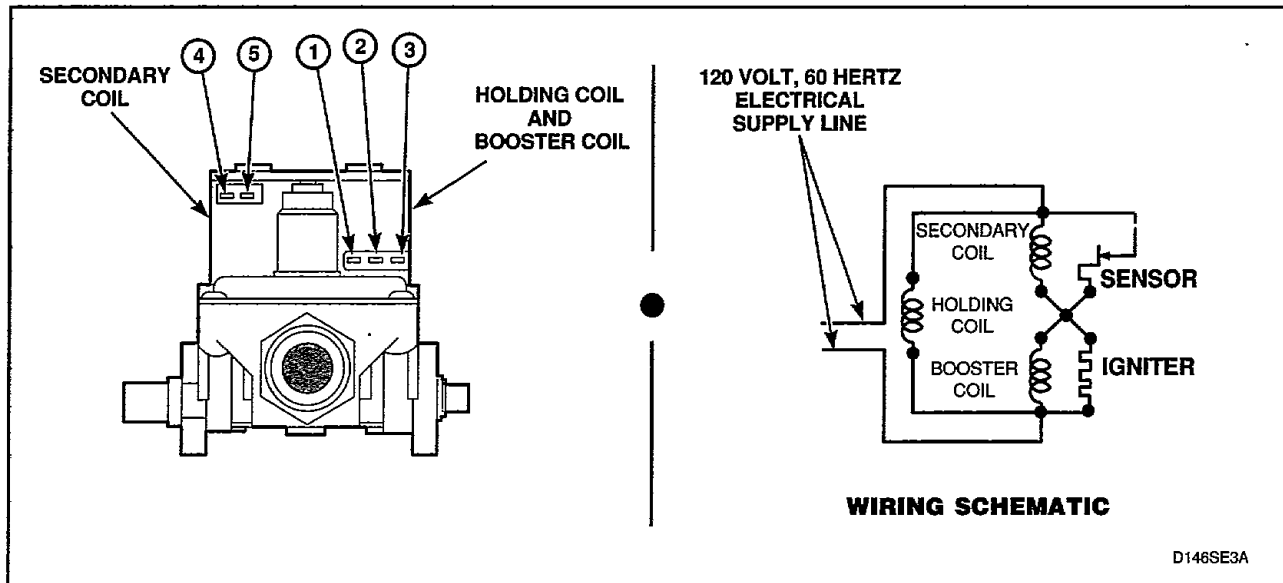

Figure 51
## 45. BURNER SYSTEM OPERATION (Gas Models - Figure 51)
## 46. IGNITION SYSTEM FEATURES (Gas Models - Figure 51)
- Remove valve wire harness disconnect block from the holding and booster coil, *Figure 51*.
- Set test meter to read AC voltage and apply meter probes into terminals on the dryer harness that would correspond to terminals "1" and "2" on the coil, *Figure 51*. Meter should register line voltage in all Fabric settings, except FLUFF which should read "zero" VAC.
- Remove disconnect blocks from gas valve coils, *Figure 51*.